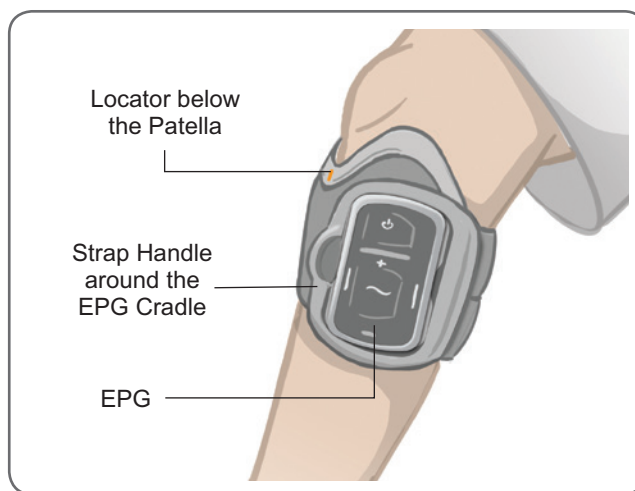

Figure 8-8: Lower Leg FS Cuff on the Right Leg
5. Make sure the fastened FS Cuff fits comfortably, with the locator below the patella and the strap handle around the cradle, as shown in Figure 8-8.